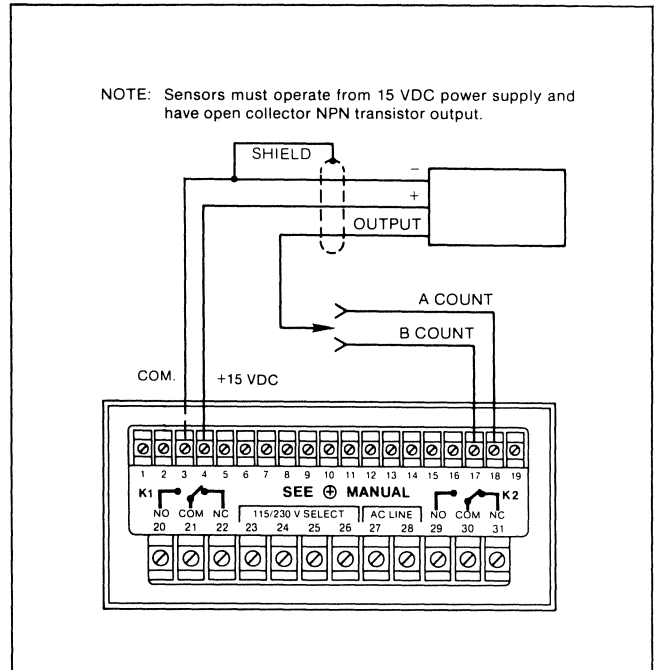

Figure 4-10. Proximity Switch or One-Piece Photoelectric Sensor Wiring.
- For connection of proximity switch or photoelectric sensors, refer to Figures 4-10 and 4-11. The sensor must be capable of operating from a 15 VDC power supply and have an NPN open collector transistor output.